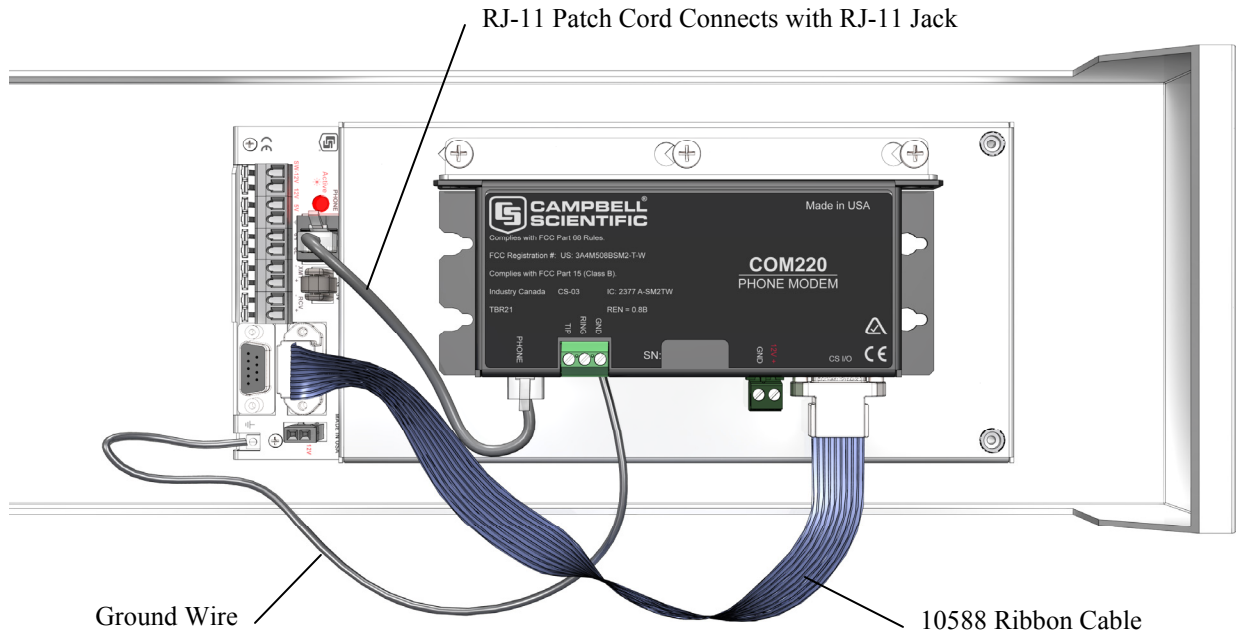

**FIGURE 2.5-1.** Close-up of the terminals and 9-pin ports in the T107 (battery not shown).
The T107 station does not require an interface device for direct RS-232 communication. The inside of the enclosure has a RS-232 and CS I/O port available for communication (see Figure 2.5-1). Most standard communication options use the CS I/O port leaving the RS-232 port free for direct communication with a laptop or desktop computer using a standard RS-232 serial cable. The CR1000 datalogger used in the T107 station can speak with more than one device at a time allowing troubleshooting to be done in the field with a laptop while remote communication devices are accessing the station.
2. Connect the modem 9-pin port to the ET Enclosure CS I/O port with the P/N 10588 ribbon cable supplied with the ET Enclosure (see Figure 2.5-1 and 2.5-2).
The following short-haul kit components (see Figure 2.5-1) are used to make the external connections: